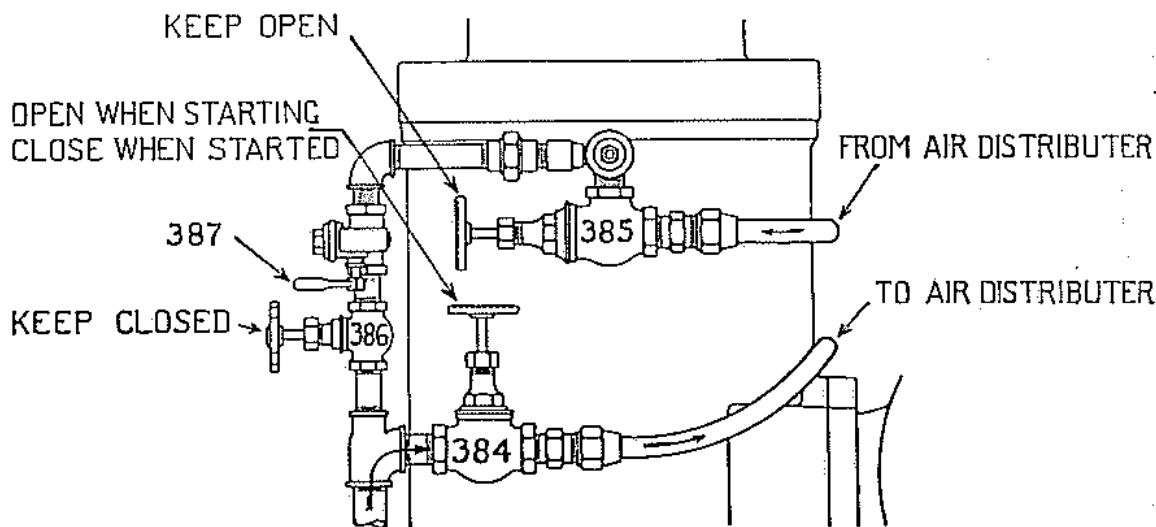

Fig. 2—Valves Set for Starting with Air Distributor.
4. Set air valves in accordance with Fig. 2 above.
3. Open air valve 384 shown on Fig. 2, page 13.
5. Close main air valves 384 and 386 shown on Fig. 2, page 13.
1. Open air lines and valves to air starter as shown on Fig. 2, page 13. See that air inlet valves at the rear of each cylinder are open (with locking wheels forward).